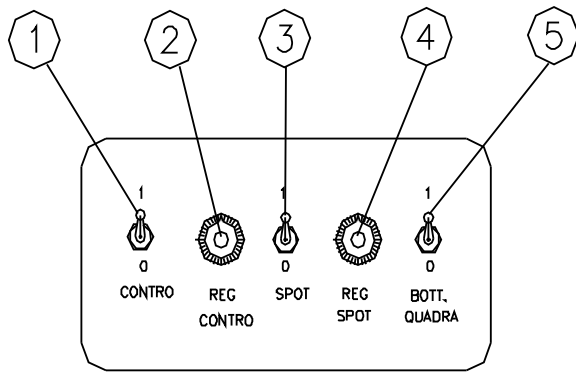

fig. 17
- Start (pos.1) the function SQUARE BOTTLE with the switch 5 (fig. 17).
- Position the holder 19 in the precedent position and switch off the option "square bottle" putting the switch 5 in the position 0 (fig. 17).